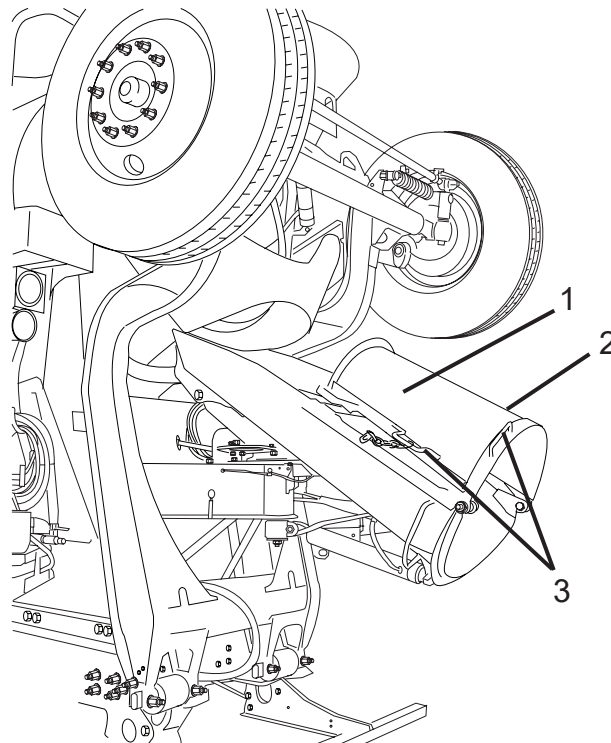

Figure 96
2. Disconnect the retaining chain (Figure 96, Item 1) from the fold-over chute (Figure 96, Item 2).
3. Grasp the fold-over chute by the handles (Figure 96, Item 3), and pivot the fold-over chute down until it firmly engages the main chute.